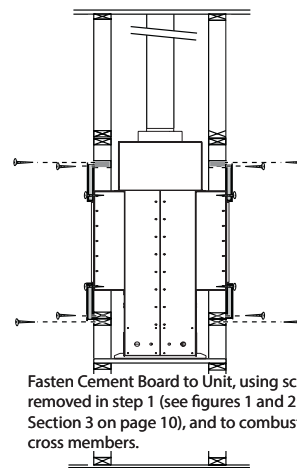

Figure 4 Sec.3 Non-combustible Cement Board the Fireplace, (supplied by Montigo) Both Sides Typical.
**Step 3.** As shown in Figure 4; Use Cement Board, supplied by Montigo, to overlap the new 2 x 4's and Non-combustible Header (front & rear face). Attach on all sides of the glass, allowing 1/8" clearance from the rim of the fireplace opening. Top piece attaches